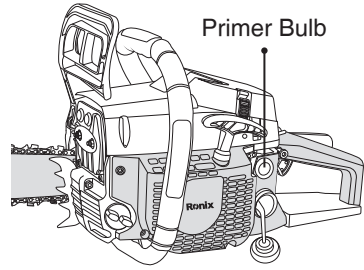

Fig. 8
2. Fully press and release the oil feeder 5-10 times, slowly (Fig. 8). Some amount of fuel should be visible in the primer bulb. If fuel cannot be seen in the bulb, press and release the bulb until fuel is visible.